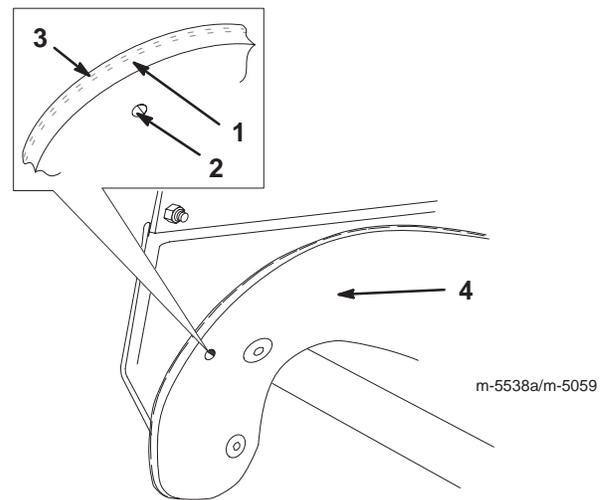

Figure 22
1. Examine a new rotor blade edge for the difference in the thickness of the rubber layers (Fig. 22).
Install the new rotor blade with the thick rubber layer on the *inside* of the curved surface (Fig. 22). If you do not install the rotor blade properly, it will wear out more quickly.
3. Secure the new rotor blade to the rotor halves with the 2 hex-head bolts and 2 locknuts that you previously removed. Position the bolt heads on the thick rubber side of the rotor blade (Fig. 22).
4. Curve the new rotor blade and secure it with the torx screws and locknuts you previously removed, positioning the screw heads on the thick rubber side of the rotor blade (Fig. 22).